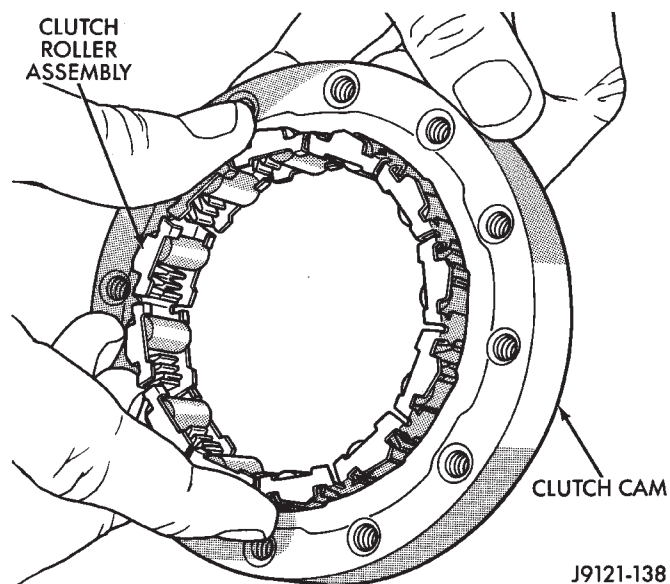

Fig. 32 Assembling Overrunning Clutch And Cam
(2) Install overrunning clutch roller, spring and retainer assembly in clutch cam (Fig. 32).
(3) Temporarily assemble and check overrunning clutch operation as follows: